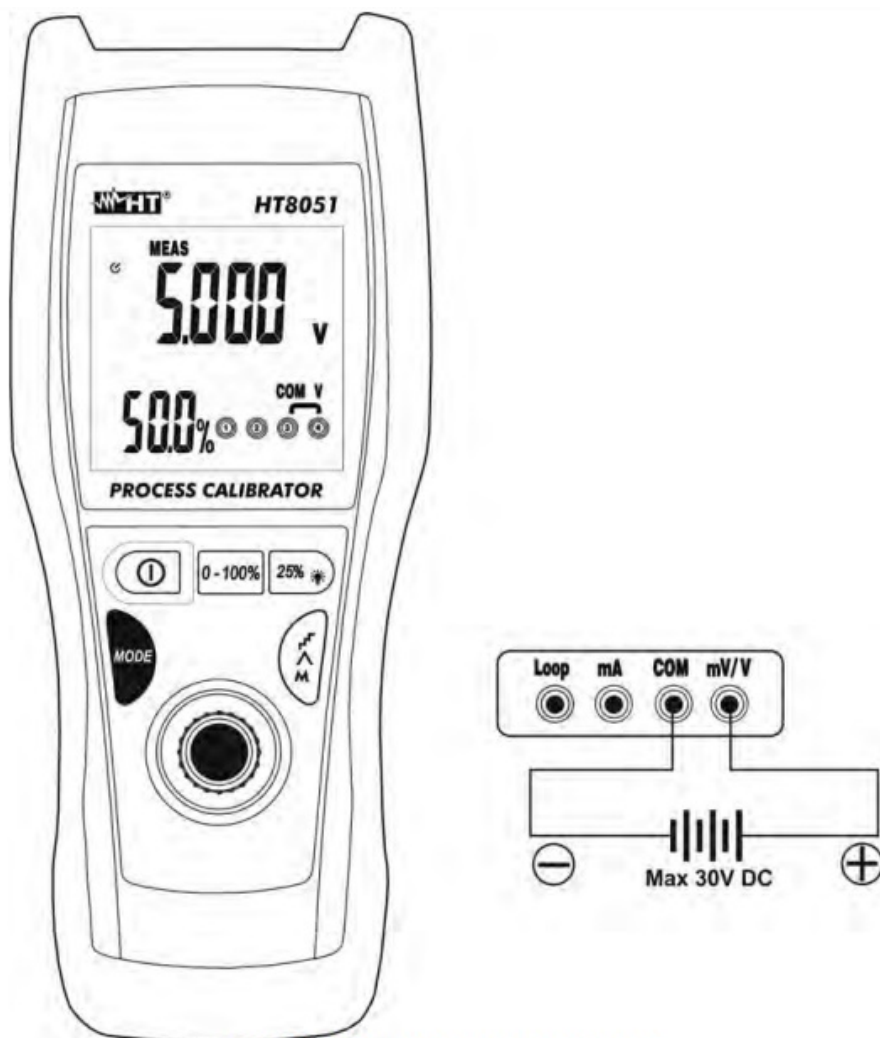

Fig. 3: DC voltage measurement
3. Position the green lead and the black lead respectively in the points with positive and negative potential of the circuit to be measured (see Fig. 3). The value of voltage is shown on the main display and the percentage value with respect to the full scale on the secondary display
4. The message “-OL-” indicates that the voltage being measured exceeds the maximum value measurable by the instrument. The instrument do not perform voltage measurements with opposite polarity respect to the connection in Fig. 3. The value “0.000” is shown at display.